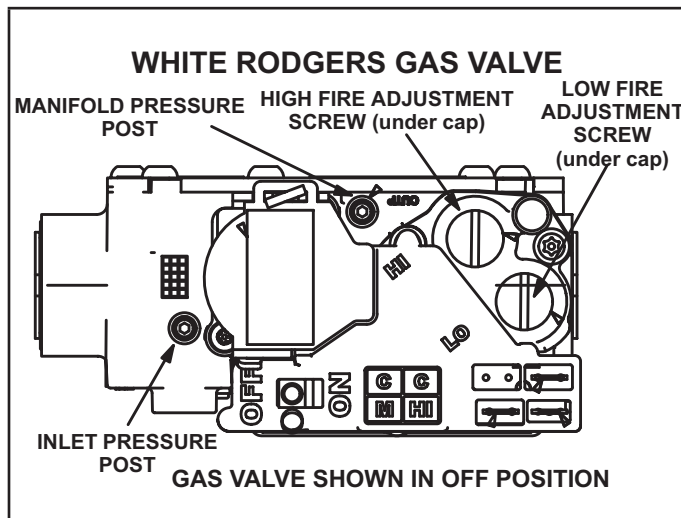

Figure 5
- 2 - Remove the access panel. Move the automatic gas valve switch to OFF. See figure 5.
- 6 - Move the switch on the gas valve to OFF. Do not force the switch. See figure 5.
An inlet pressure post located on the gas valve provides access to the supply pressure. See figure 5. Back out the 3/32 hex screw one turn, connect a piece of 5/16 tubing and connect to a manometer to measure supply pressure. Check the unit on high fire. On multiple unit installations, check the unit separately and with the other units operating. See table 1 for supply line pressure. Following the supply pressure check, turn off unit, remove manometer and tighten post hex screw.
A manifold pressure post located on the gas valve provides access to the manifold pressure. See figure 5. Back out the 3/32 hex screw one turn, connect a piece of 5/16 tubing and connect to a manometer to measure manifold pressure.
- 1 - Connect test gauge to manifold pressure post (figure 5) on gas valve.
- 4 - If necessary, make adjustments. Figure 5 shows location of high fire and low fire adjustment screws.